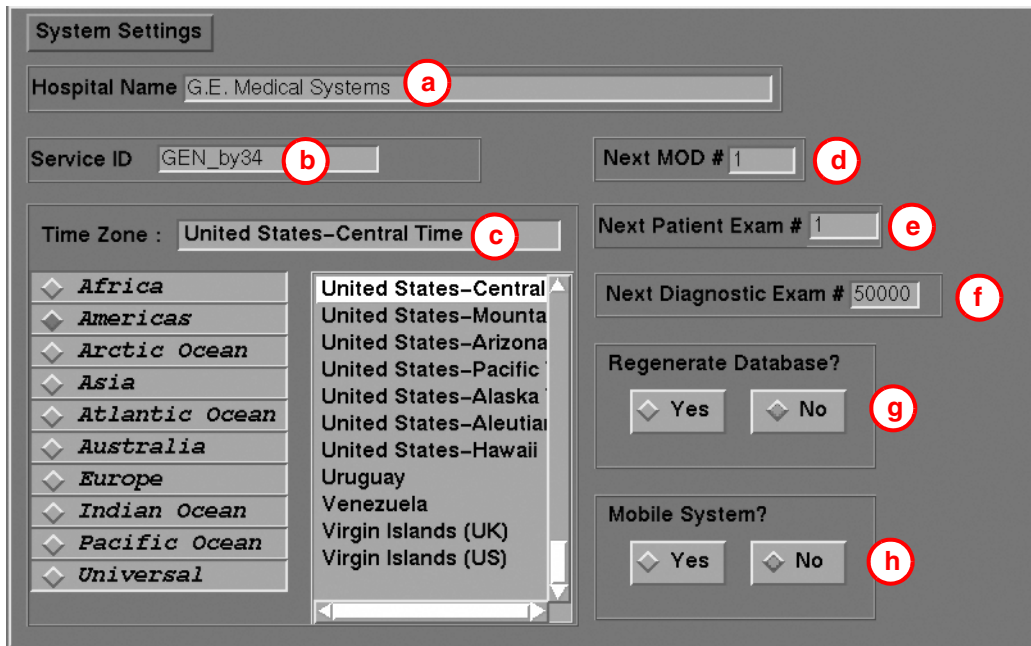

Figure 5-11 System Settings Screen
The OC displays the System Configuration - System Settings Screen as shown in Figure 5-11.
- a.) Hospital Name (Figure 5-11, item 1) configures the name that will show up on images produced by this scanner. *Example:* ST MARYS HOSPITAL
- b.) Service ID (Figure 5-11, item 2) is issued by the Service organization. *Example:* 262785CT2 (no spaces)